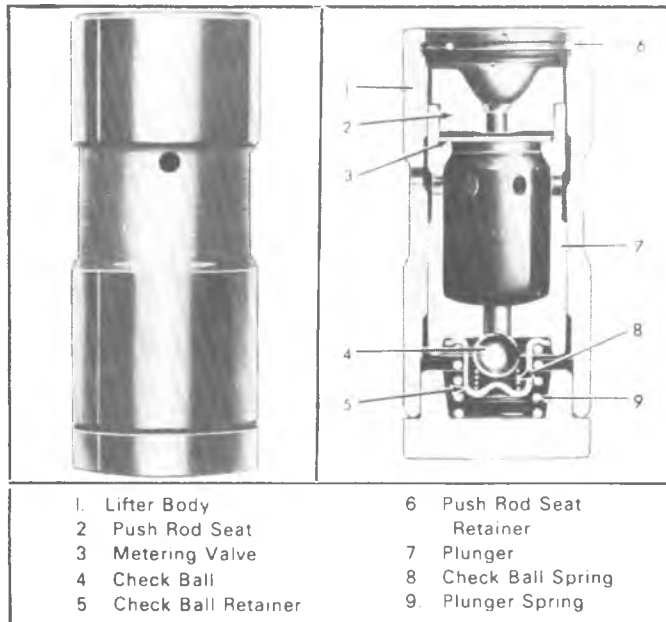

Fig. 30—Hydraulic Valve Lifter
2. Remove the push rod seat and metering valve (fig. 30).
7. Install the metering valve and push rod seat (fig. 30).